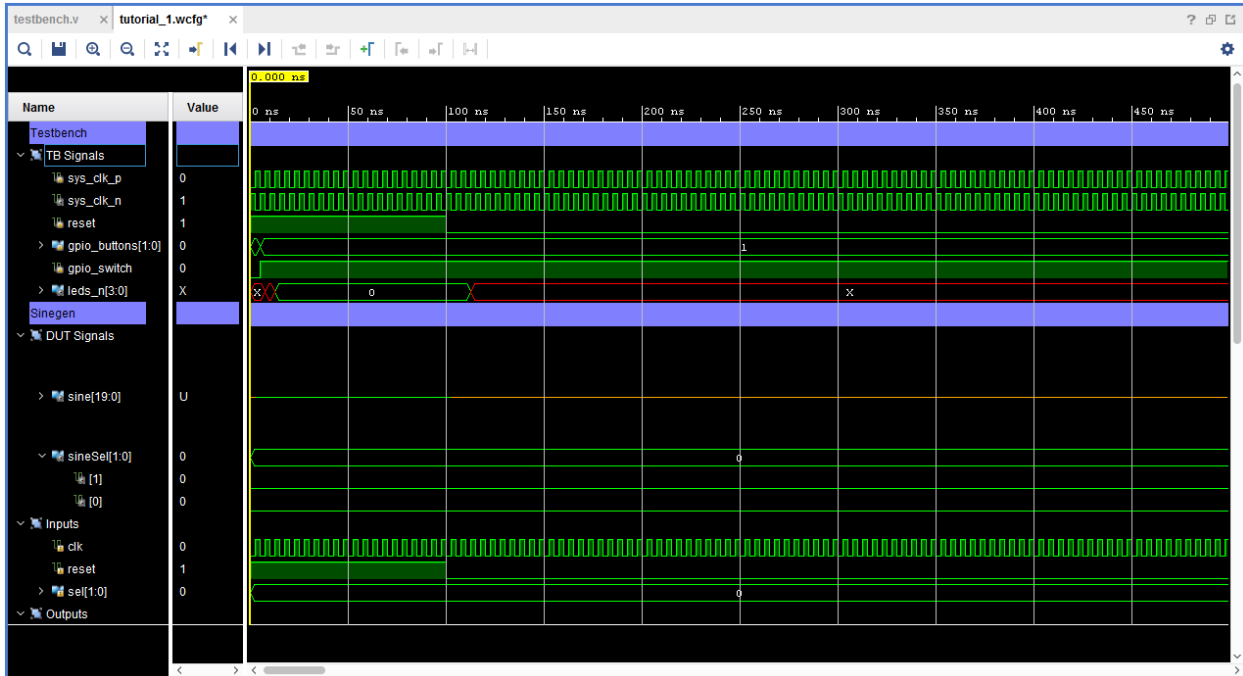

**Figure 25: Using Markers**
1. In the Waveform window select the `/testbench/dut/sineSel[1:0]` signal, as shown in Figure 25.
With markers identifying the transitions on `sineSel`, the Waveform window should look similar to Figure 25. As previously observed, the low frequency signals are incorrect when the `sinSel` signal value is 0.